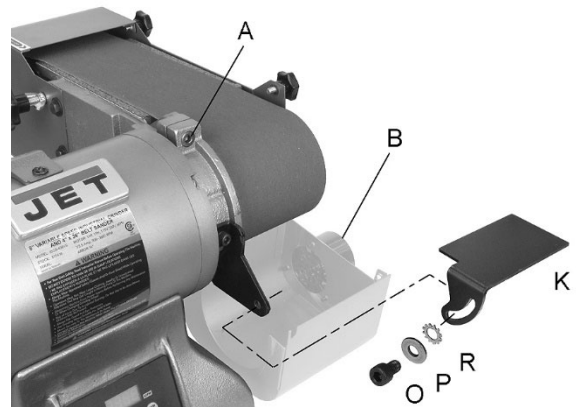

Figure 6-5: Sanding tool rest
2. Loosen screw (A, Figure 6-5) with 6mm hex wrench and lower sanding arm to horizontal position.
Loosen screw (A, Figure 6-5) with 6mm hex wrench and lower sanding arm to horizontal position.
Install tool rest as shown in Figure 6-5, using a 6mm hex wrench.
Install dust port (B, Figure 6-5) over exhaust hole in sanding arm, with three screws.
Loosen screw (A, Figure 6-5) and manually move arm to vertical or horizontal position. Retighten screw.